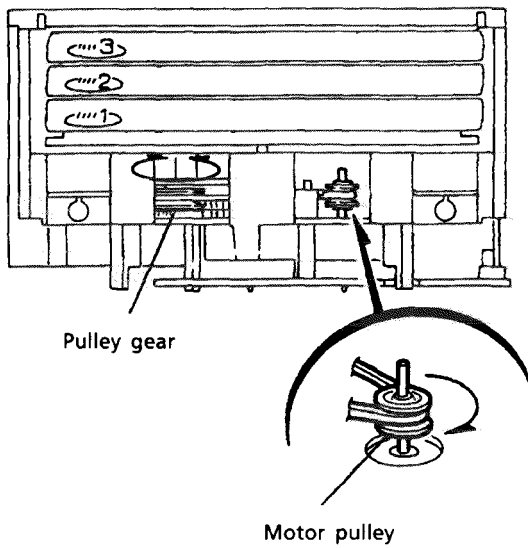
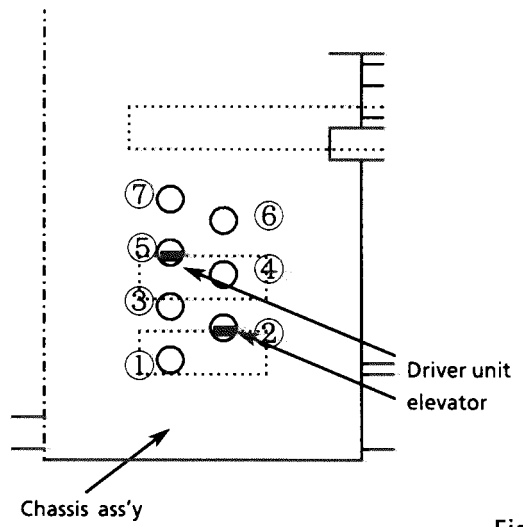

Fig. 26
Fig. 25
[NOTE] Set the elevator in correct position (Fig. 25) by rotating the pulley gear with finger if it is not positioned correctly (Fig. 26.).
12. Rotate the motor pulley clockwise with finger until the lifter unit's stopper is lowered from ⑩ hole located on the CD tray ass'y. (See Fig. 26.)